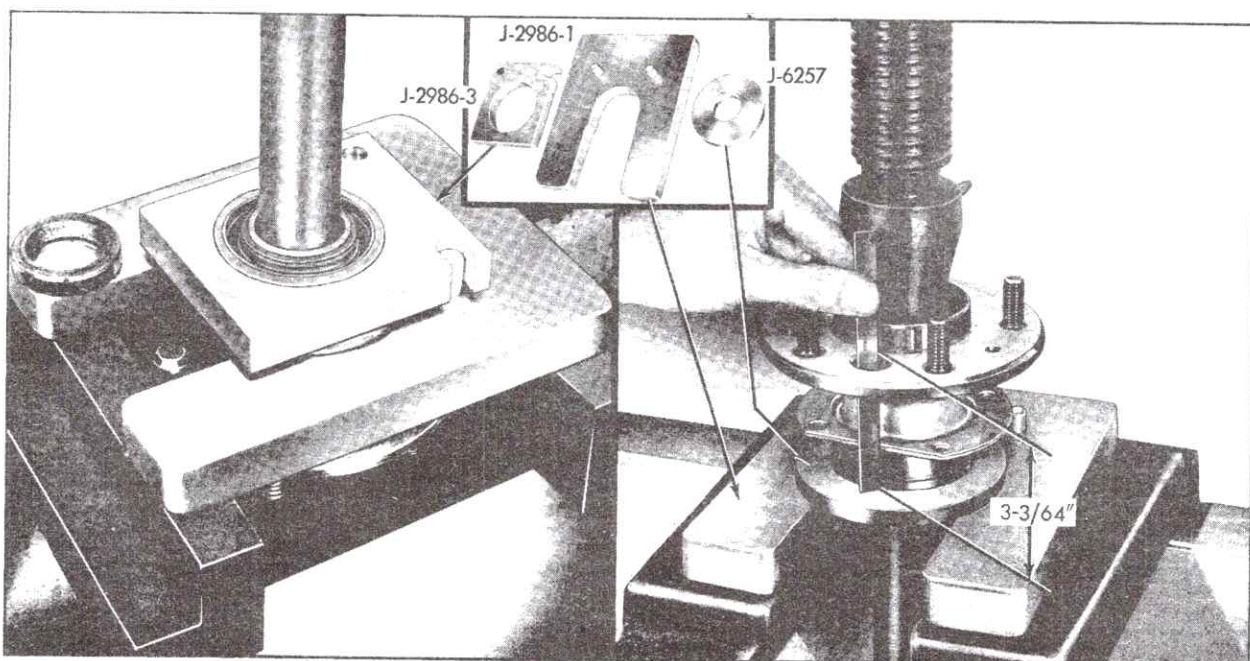

Fig. 4-34 Removing and Installing Rear Wheel Bearing
4. Install Rear Wheel Bearing Holding Tool, J-2986-3, around bearing and over dowels, Fig. 4-34.
Plate and Pin Assembly, J-2986-1, and place on arbor press, Fig. 4-34.
9. Press bearing on shaft so that there is 3-3/64 inch clearance between outer surface of axle shaft flange and inner end of wheel bearing inner race, Fig. 4-34.